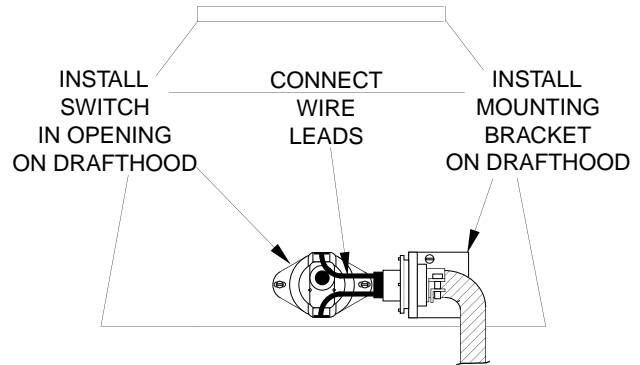

FIGURE 1.11
3. Install mounting bracket on outside surface of draft hood shroud with the screws provided (HARNESS MUST BE ON OUTSIDE OF SHROUD). Install spill switch in hole in shroud (on outside surface) with the screws provided, Figure 1.11.